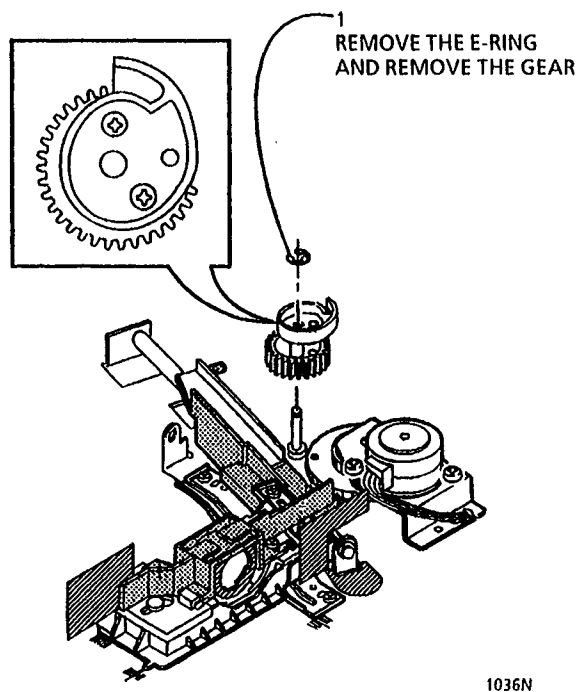

Figure 1. Removing the Shift Cam Gear
4. (Figure 1): Remove the Shift Cam Gear.